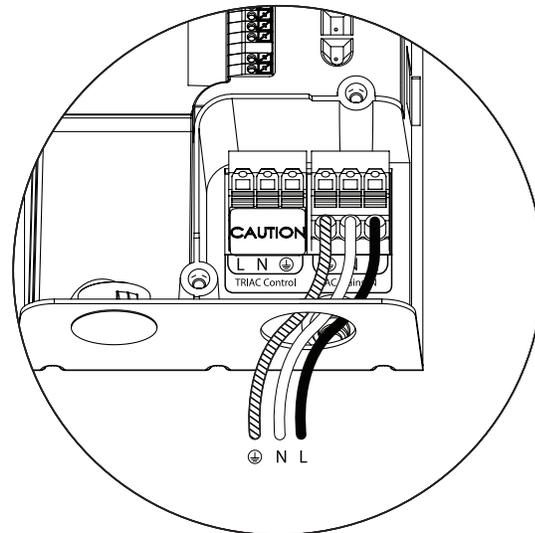

fig. 8
2. Insert appropriate conductors from Mains Power (see fig. 8).